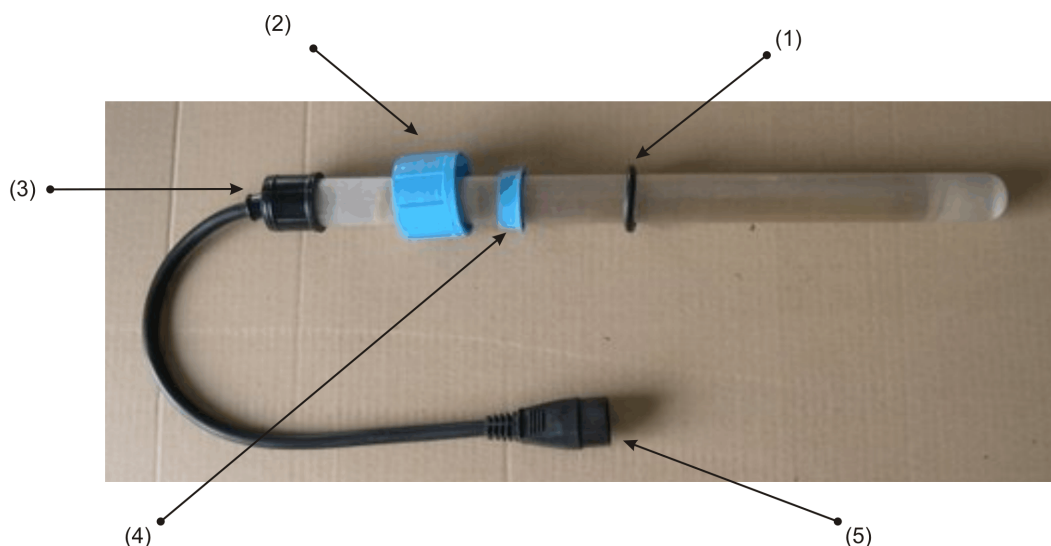
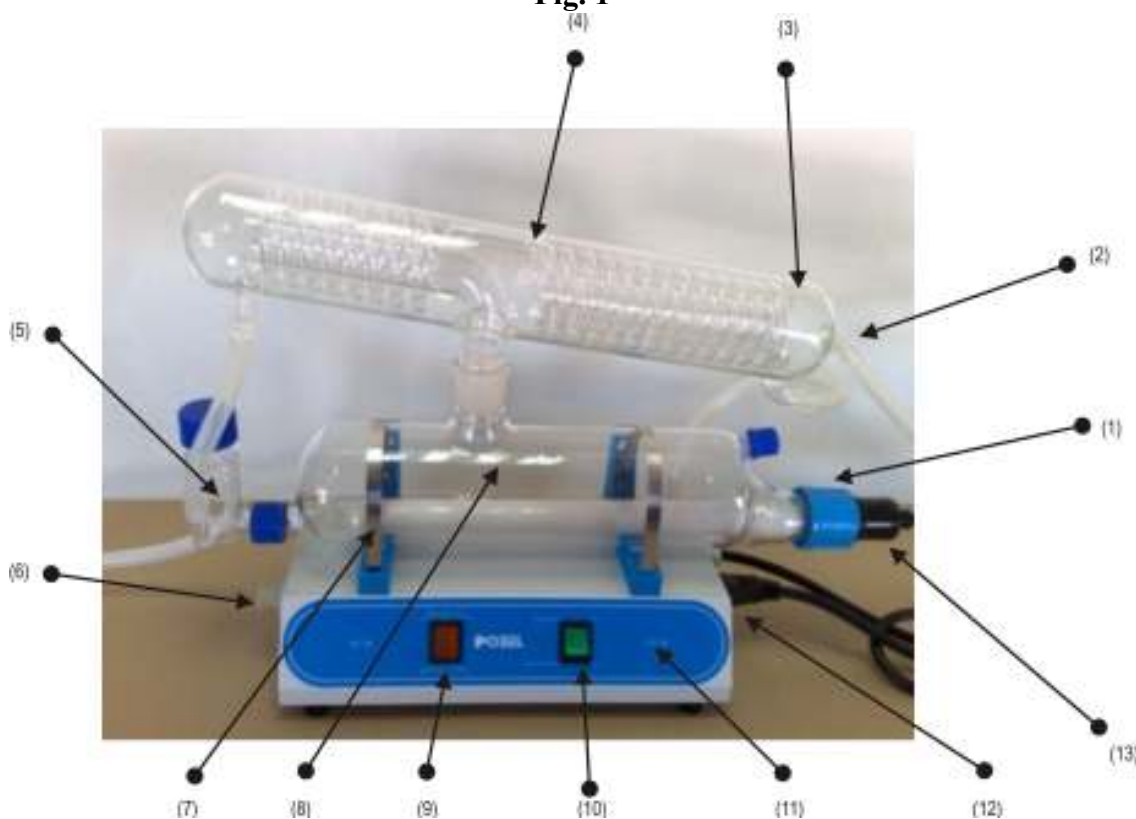

Fig. 1
Fig. 2
1. Be sure that heater elements (washer of silicone rubber, guide fitting and PTPB nut) are in the order and position that the fig. 1 shows.
2. Insert the heater through the screw mouth (see fig. 2); hold the heater of the fitting (fig. 1,
piece 2) – and do not of the cap (fig. 1, piece 1) – and turn the PTPB nut (fig. 1, piece 3)
1. Switch on the green switch (fig. 2, piece 10). This will light showing that the still is connecting to the power point. The warning light will also light (fig. 2, piece 9) showing that the water supply is not enough.
2. Turn the tap on slowly until the pilot (fig. 2, piece 9) turn off.
- Before few minutes, the heater will be getting red and the boiling will start. The stilled water goes out through the outlet (fig. 2, piece 2).
- If water steam went out through steam hole (fig. 2, piece 3), you would have to increase water supply.